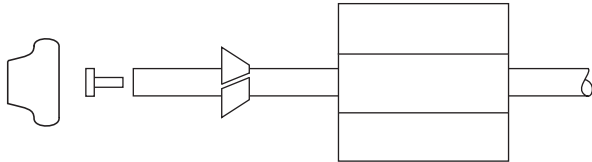

Figure 7
5. Make compression fitting connection between brine line and valve (Figure 7).